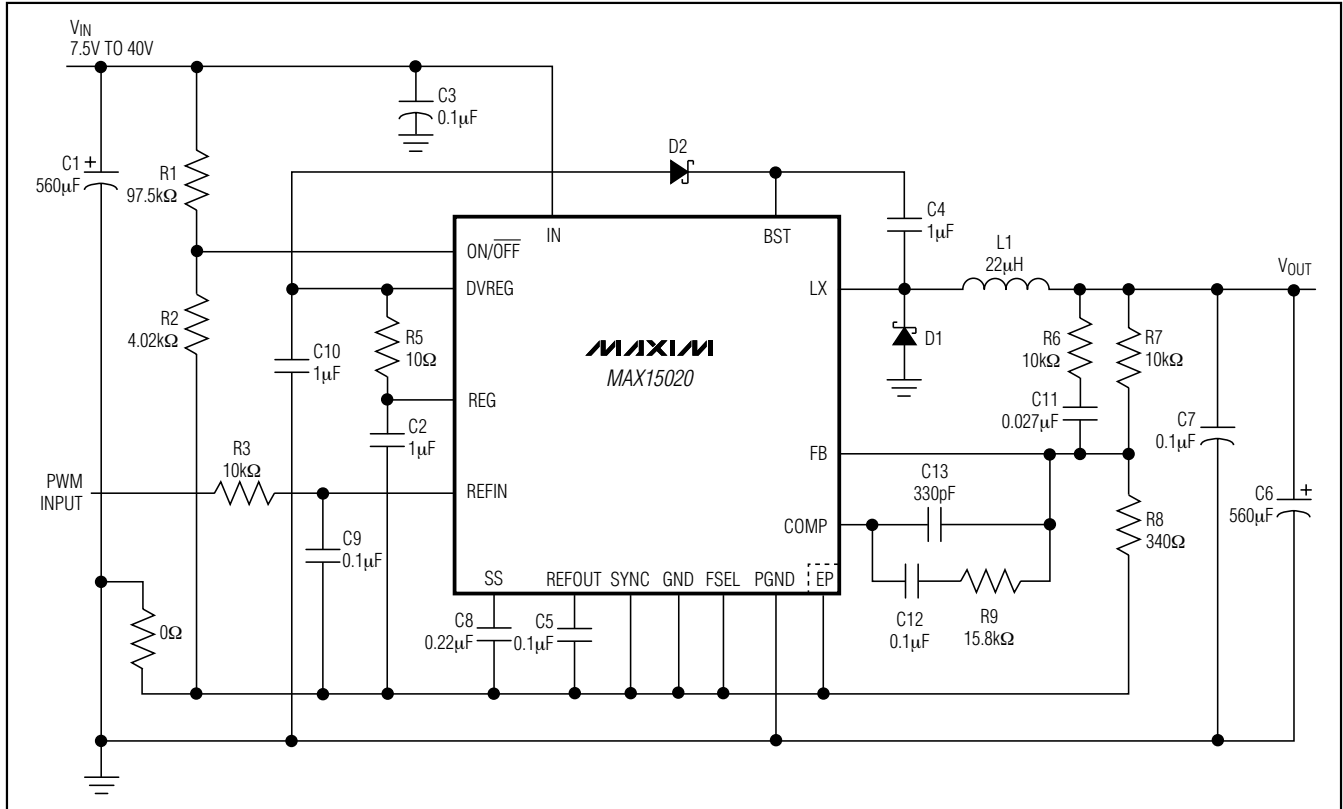

Figure 2. Typical Application Circuit
($V_{IN} = 36V$, Circuit of Figure 2, $T_A = +25^\circ C$, unless otherwise noted.)
The MAX15020 features a reference input for the internal error amplifier. The IC regulates FB to the SS voltage which is driven by the DC voltage applied to REFIN. Connect REFIN to REFOUT to use the internal 0.98V reference. Connect REFIN to a variable DC voltage source to dynamically control the output voltage. Alternatively, REFIN can also be driven by a duty-cycle control PWM source through a lowpass RC filter (Figure 2).
When the voltage at ON/OFF rises above 1.225V, the MAX15020 turns on. Connect a resistive divider from IN to ON/OFF to GND to set the turn-on voltage (see Figure 2). First select the ON/OFF to the GND resistor (R2), then calculate the resistor from IN to ON/OFF (R1) using the following equation:
Connect a resistor-divider from OUT to FB to GND to set the output voltage (see Figure 2). First calculate the resistor (R7) from OUT to FB using the guidelines in the *Compensation Design* section. Once R7 is known, calculate R8 using the following equation:
The basic regulator loop consists of a power modulator, an output feedback divider, and a voltage error amplifier. The power modulator has a DC gain set by V_{IN} / V_{RAMP} , with a double pole and a single zero set by the output inductance (L), the output capacitance (C_{OUT}) (C_6 in the Figure 2) and its ESR. The power modulator incorporates a voltage feed-forward feature, which automatically adjusts for variations in the input voltage resulting in a DC gain of 9. The following equations define the power modulator: